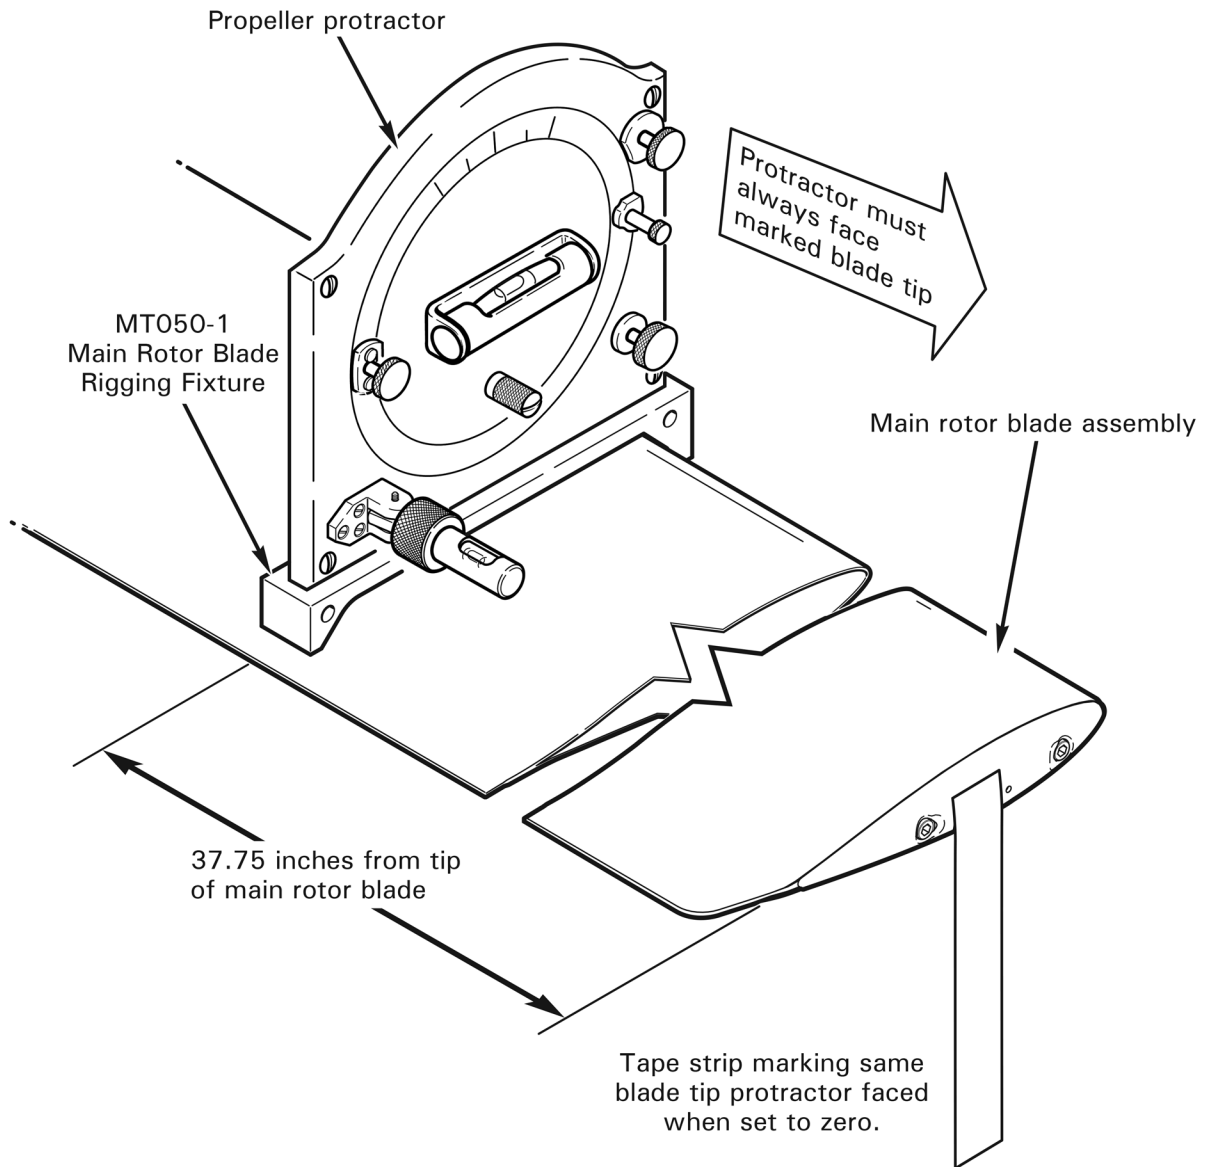

FIGURE 10-4 MAIN ROTOR BLADE RIGGING
Main rotor blade angles are measured using MT050-1 rigging fixture and a Kell-Strom KS113 propeller protractor or a comparable protractor (refer to Figure 10-4). Use following procedure to set up for rigging:
- a. Refer to Figure 10-4. Measure blade angles and record below. Rotate rotor 180° and record blade angles below. Adjust blade angles per step 3.b.
- a. Refer to Figure 10-4. Measure blade angles and record below. Rotate rotor 180° and record blade angles below. Adjust blade angles per step 5.b.
- a. Refer to Figure 10-4. Measure blade angles and record below. Rotate rotor 180° and record blade angles below. Adjust blade angles per step 8.b.
a. Refer to Figure 10-4. Measure blade angles and record below. Rotate rotor 180° and record blade angles below. Adjust blade angles per step 10.b.
- a. Refer to Figure 10-4. Measure blade angles and record below. Rotate rotor 180° and record blade angles below. Adjust blade angles per steps 3.b.
- a. Refer to Figure 10-4. Measure blade angles and record below. Rotate rotor 180° and record blade angles below.